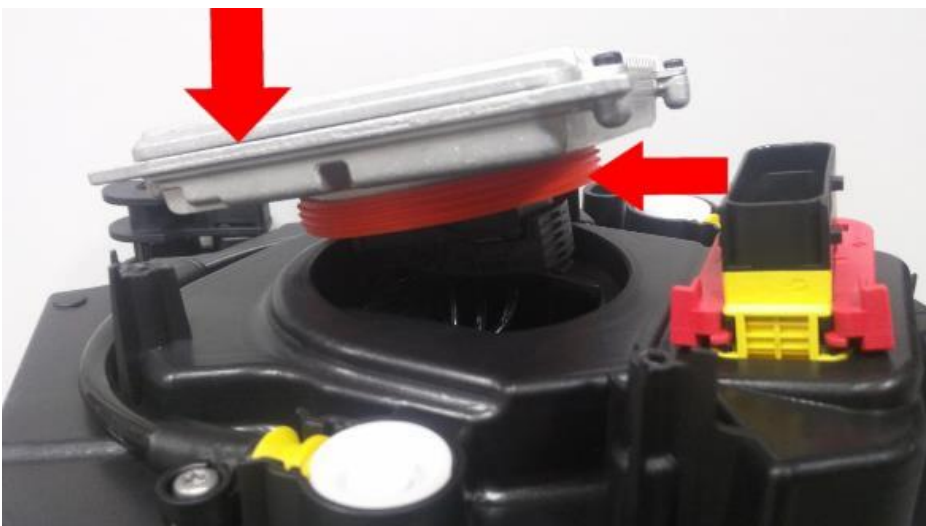

Figure 7
6) Referring to Figure 7 - Refit the module, ensuring the seal is in the correct position